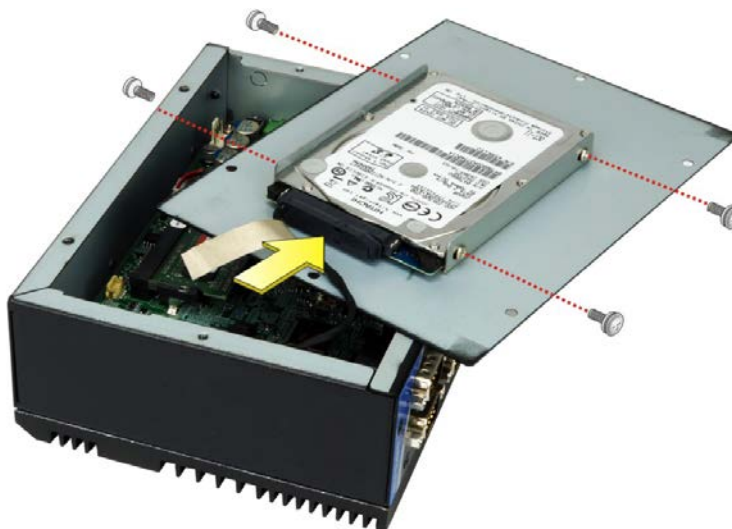

Figure 3-4: HDD Installation
- Step 2:** Install the HDD into the bracket on the internal access panel, and secure the HDD with four retention screws (**Figure 3-4**).
- Step 3:** Connect the SATA cable from the motherboard to the rear of the HDD (**Figure 3-4**).